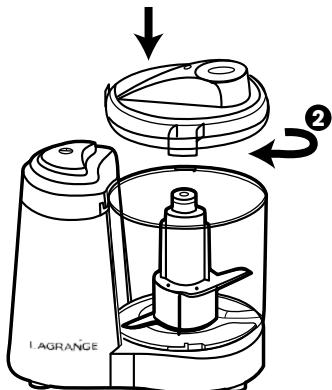

Fig. 3
- \* Put the cover on the bowl containing the food. Lock the cover by completely by inserting the cover locking tab into the locking slot of the cover and turning it clockwise (Fig. 3).